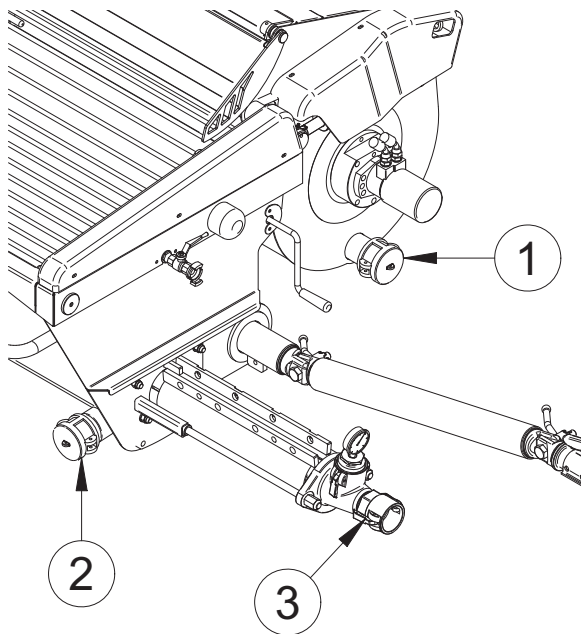

Fig. 10
- Empty out the mixer by removing the plug (Fig. 10, Ref. 1) or emptying it into the hopper.
- Remove the hopper plug (Fig. 10, Ref. 2).
- Restore the hopper plug (Fig. 10, Ref. 2) and fill the hopper with water.
- Restart the machine for a few seconds until clean water comes out the manifold (Fig. 10, Ref. 3): this means the pump is clean.